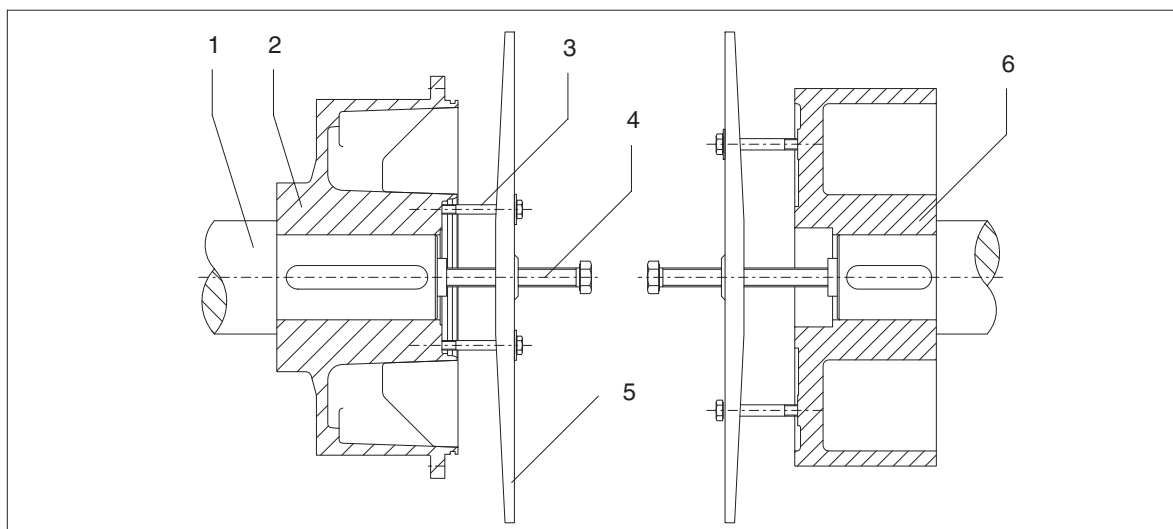

Fig. 16: Removing the FLUDEX coupling -c
The space between the shafts now suffices for the fitted hubs, if necessary, to be pulled off by means of commercially available tools after releasing the axial fixture. Located at the end-face side in the hub in the hub-carrier part (120) are two tapped holes offset by 180°, which may be used to insert drawing bolts (see figure 16).